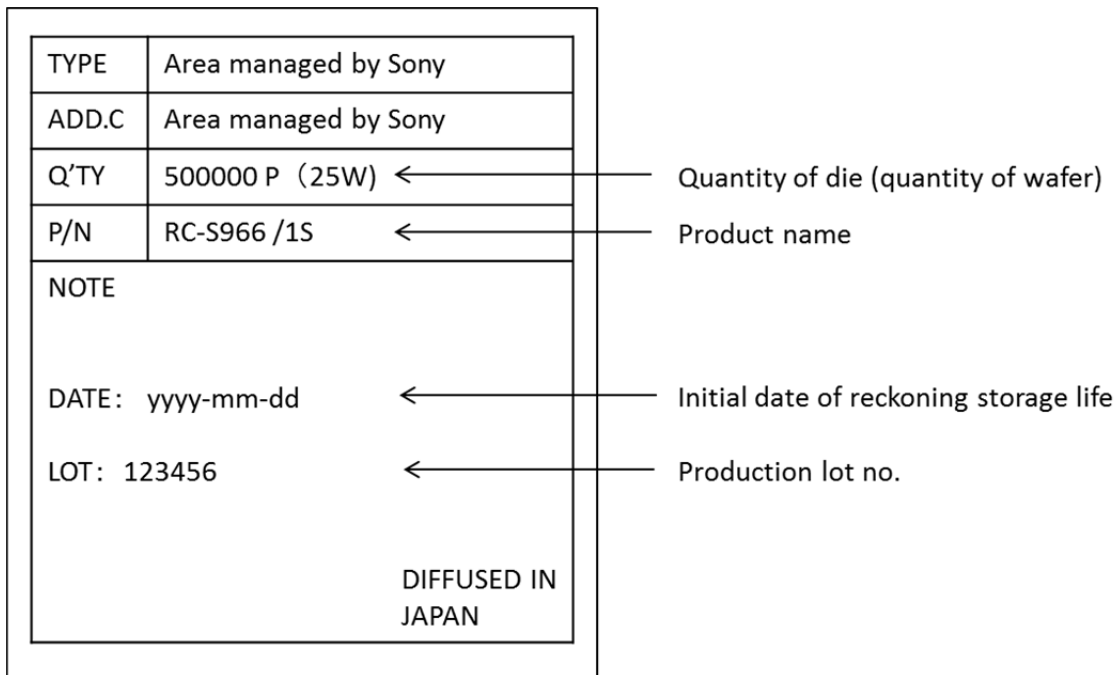

Figure 7-11: Wafer container label (example)
- 2) Wafer container label (See Figure 7-11) is attached to the top surface of the wafer container.